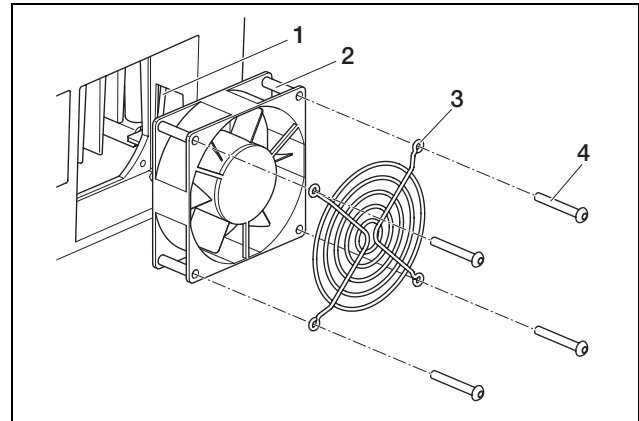

Fig. 79: Removing the fan (convert 3T/3.5T/4T/6T)
- convert 3T/3.5T/4T/6T: Loosen the screws (4 in fig. 79) and carefully remove the fan grille and the fan.